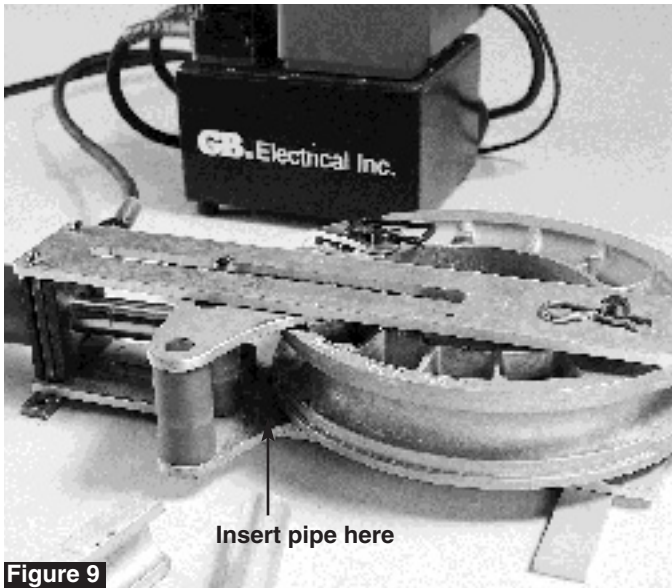

Figure 9
- Insert the pipe to be bent into the groove between the rollers and the bending shoe (see Figure 9).